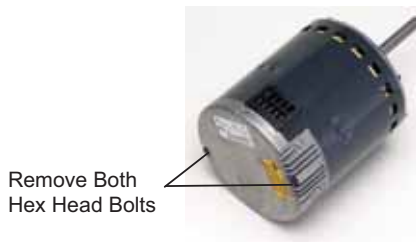

Figure 19. Remove the Hex Head Bolts
- 4 - Remove the two hex head bolts securing the motor control module to the motor (**Figure 19**).
- 3 - Mount new motor control module to motor using two hex head bolts removed in **Figure 19**. Torque bolts to 22 inch pounds or 1/16th clock wise turn.